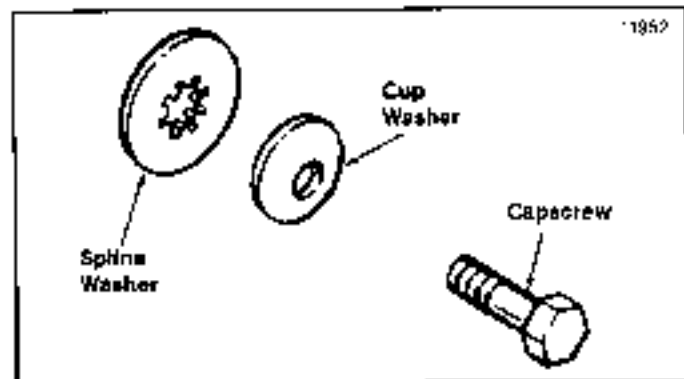

Figure 18. Blade Hardware
1. Reinstall the blade(s) with the tabs pointing upward. Install the spline washer, cup washer, and capcrew (see figure 18). Be sure the splines on the spline washer are engaged with the shaft splines. Spline washer should be installed with the collar up (inside mower blade hole). Be sure cup washer is installed with the concave side up.